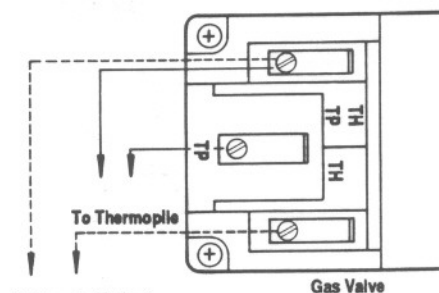

Figure 11
Step 12. Remote Millivolt Wall Switch Wiring - Attach one wire from the remote millivolt wall switch to the "TH" terminal on the gas control valve. Connect the other wire from the remote millivolt wall switch to "TH TP" terminal at the gas control valve (Figure 11).